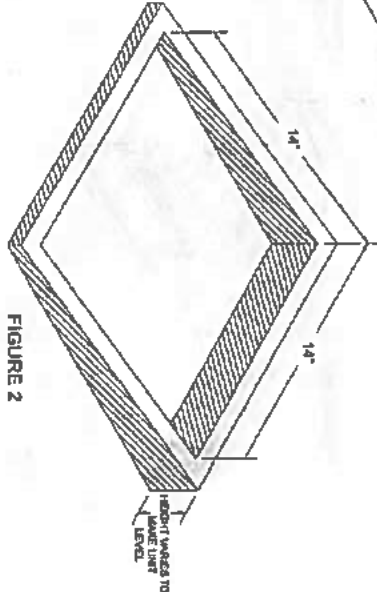

FIGURE 2
C. The roof top Heat Pump must be mounted as near level from front to rear and side to side as is possible when the vehicle is parked on a level plane. Figure 3 shows maximum allowable degree deviations (mounting degree from total surface flat plane). If the roof of the vehicle is sloped (not level) such that the roof top Heat Pump cannot be mounted within the maximum allowable degree deviations, an exterior leveling shim will need to be added to make the roof top Heat Pump level. A typical leveling shim is shown in Figure 2.